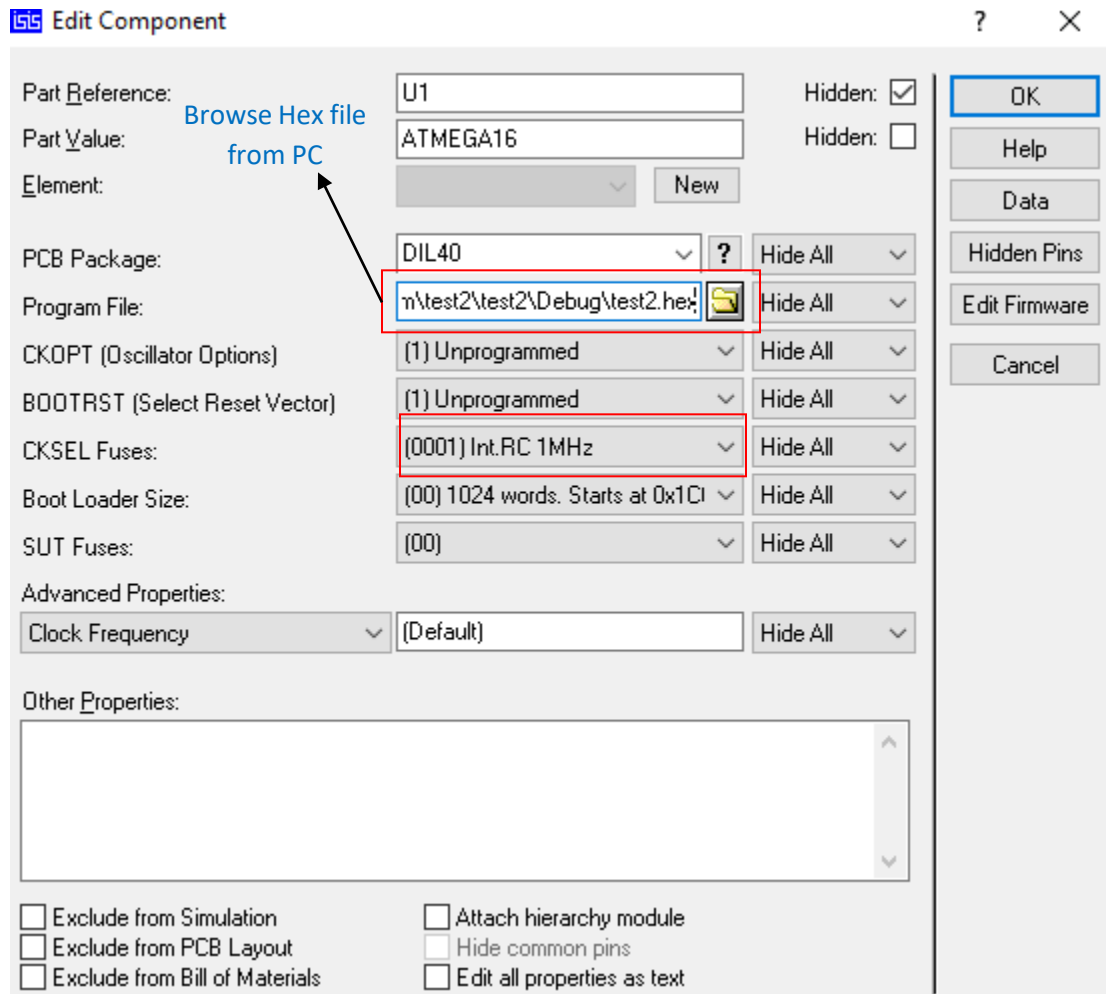

Figure 10: Selection of Program file and clock frequency
- Double click on Atmega 16/32. There should be a window appear as shown in figure 10.